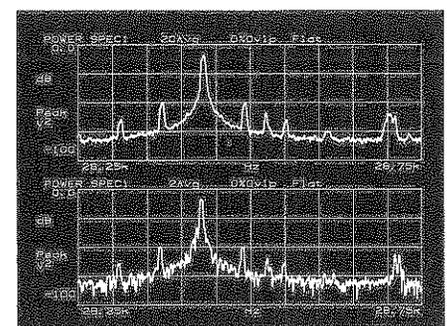

Figure 5-5
5. Start Press the yellow **START** key. Figure 5-5 shows two spectra, one after two averages and another after twenty, to highlight the difference with averaging.